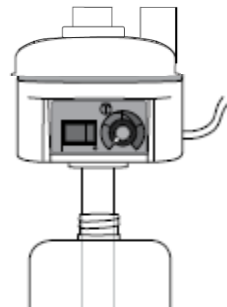

Figure 2
- Attach water container to humidifier threads below heater (Fig 2)